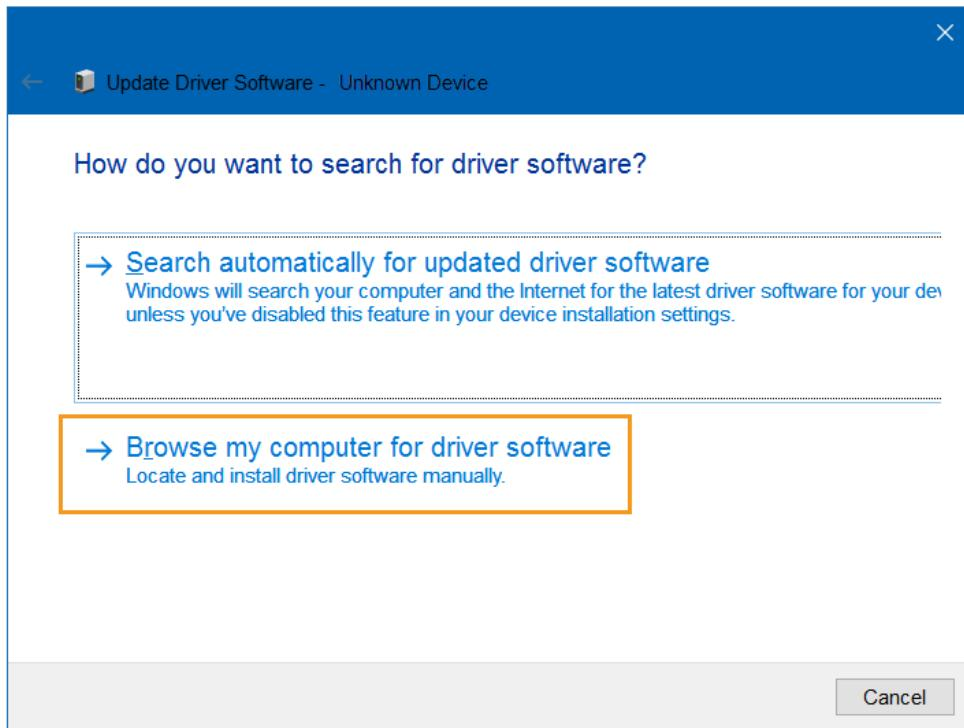

Figure 15. Browse my computer for driver software
46) Click **Browse my computer for driver software**, as shown in Figure 15.